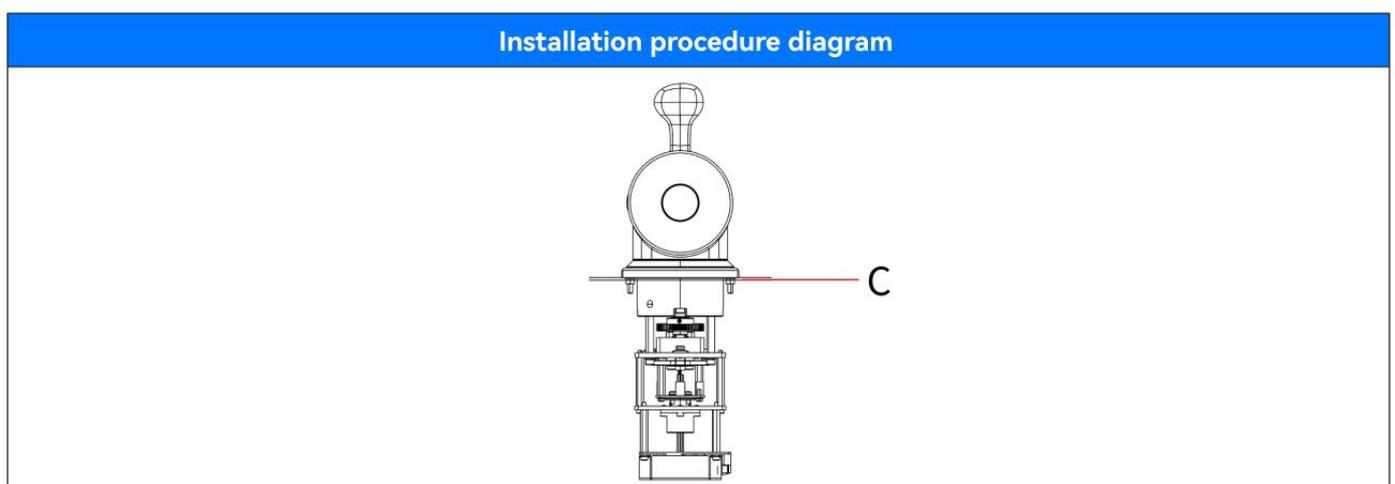

Figure 3.3
3. Fasten the handle to the mounting plate by installing studs and fittings, as shown in Figure 3.3, and tighten nut C. Make the handle and mounting plate tight and reliable. There shall be no gap or shaking on the contact surface.